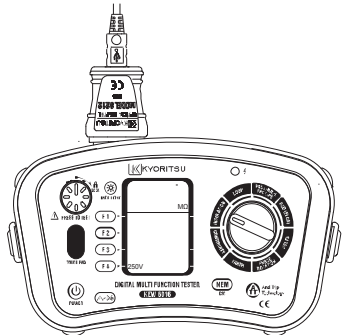

Fig.52
- (1) Connect Model8212USB to the USB Port of a PC. (Special driver for Model8212USB should be installed. See the instruction manual for Model8212USB for further details.)
- (2) Insert Model8212USB into the KEW6016 as shown in Fig 52. Test Leads should be removed from the KEW6016 at this time.